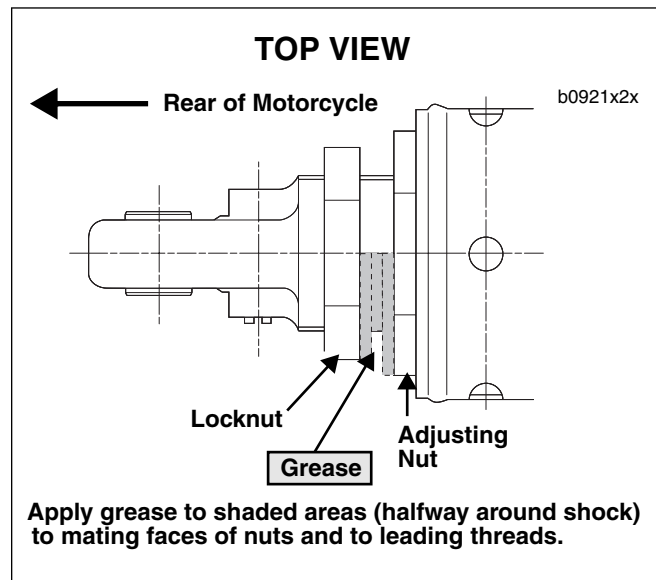

Figure 7. Locknut Tightening Procedure
- See Figure 7. When finished, apply wheel bearing grease halfway around the shock (180 degrees) to the mating faces of the locknut and adjuster nut and the first few threads on the aluminum body leading to the adjuster nut.